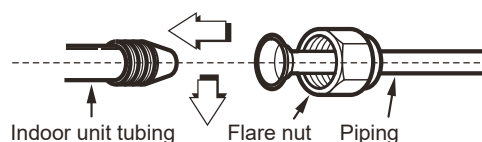

Fig. 8-7
- Sufficiently tighten the flare nut (Refer to Fig.8-7)